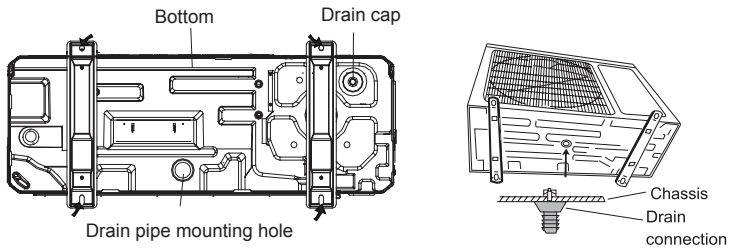

Fig.4.9
4.2.2 Condensate Drainage of the Outdoor Unit(Only for the heat pump unit) (Fig.4.9)
- (1). Taping should be done from lower to the upper part.
- (2). All pipes are bound and taped together and also should be trapped to prevent water from returning to the room (See Fig.4.9)
- (3). Restraint all pipes to the wall with saddles.